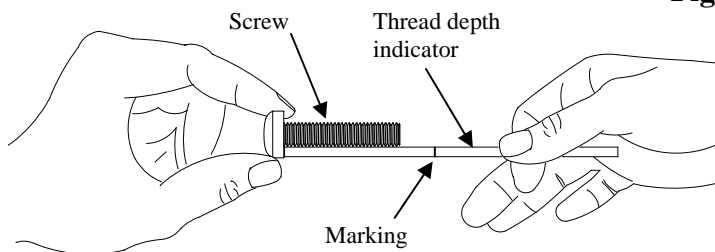

Figure 2
4. The screw length must not bypass the marking. Select another screw size (Figure 2 and 3), until you find one that comes closest to your mark without going past the mark on the Thread Depth Indicator.